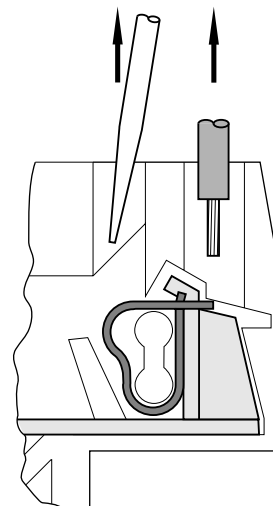

Figure 9
4. Carefully remove the cable and then pull out the screwdriver (See Fig. 9).